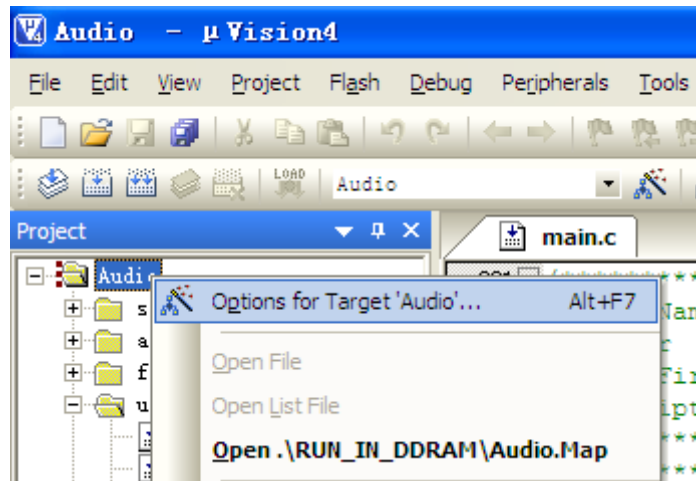

Figure 3-6
(1) Double click 04-MDK_Source\01_audio\Audio.uvproj and “**Audio**”, and then choose “**Options for Target ‘Audio’**”. Refer to figure 3-6: